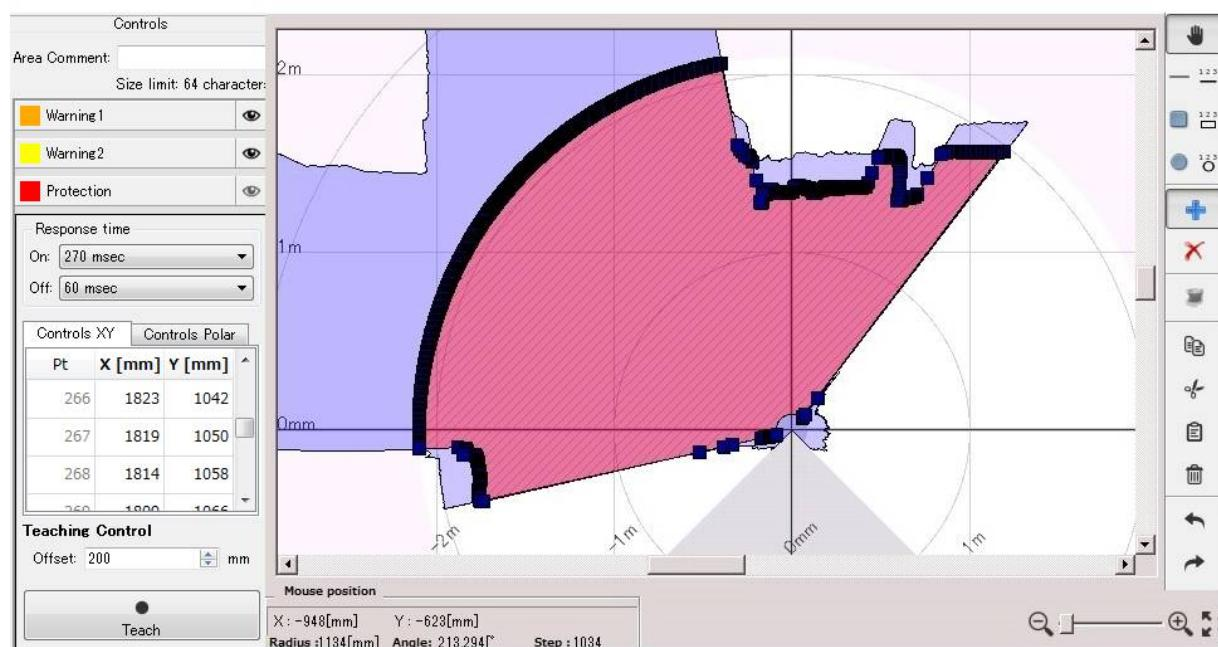

Figure 7-44 Area configured by teaching
- Obtaining the background data starts when the “Teach” button is clicked. Configured area will resemble the UAM’s background. (Figure 7-44). When configuring the protection zone, if the background is not within the maximum detection distance it is set to maximum detection distance of UAM. In case of warning area, if there is no background within 20m from UAM it will be set to 20m.